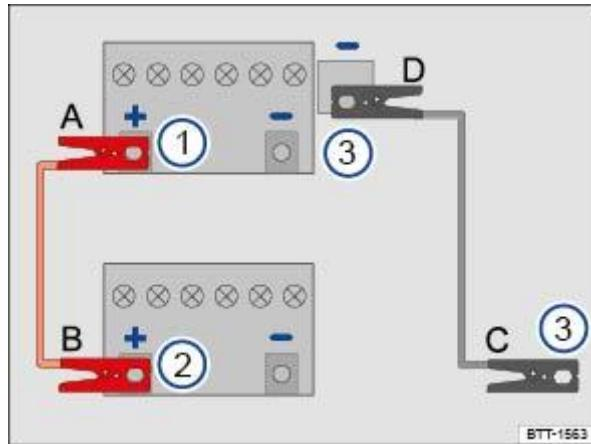

Fig. 177 How to connect the jump leads.
Key to ⇒ Fig. 177 :
The jump leads should be connected only in the order A – B – C – D ⇒ Fig. 177 .
- ② Switch off the ignition in both vehicles ⇒ Starting the engine .
- ② Open the cover on the 12-volt vehicle battery in the engine compartment, if a cover is installed ⇒ 12-volt vehicle battery .
- ② Connect one end of the red jump lead to the positive terminal (+) of the vehicle battery with the discharged 12-volt vehicle battery ⇒ Fig. 177 ① ⇒  .
- ② Connect the other end of the red jump lead to the positive terminal (+) of the vehicle battery providing assistance ⇒ Fig. 177 ②.
- ② Connect one end of the black jump lead ⇒ Fig. 177 ③ preferably to a suitable jump start connection point (earth connection) or otherwise to a solid metal part that is securely bolted onto the cylinder block, or to the cylinder block itself of the vehicle providing assistance.
- ② On the vehicle with the flat 12-volt battery, connect the other end of the black jump lead ⇒ Fig. 177 ③ preferably to the jump lead connection point (earth connection), or otherwise to a solid metal part that is securely bolted onto the cylinder block, or to the cylinder block itself ⇒  .
- ② Position the leads in such a way that they cannot come into contact with any moving parts in the engine compartment.
- ¶ When the engine is running, the jump leads should be removed only in the order D – C – B – A ⇒ Fig. 177 .